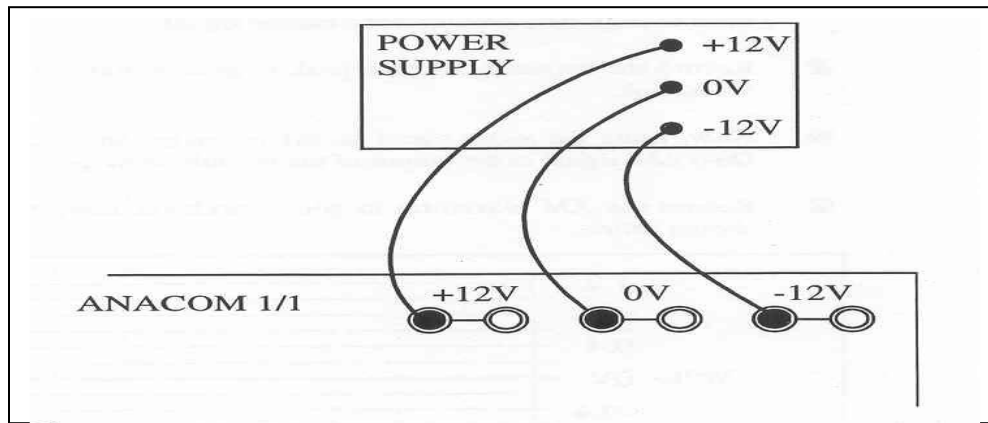

Fig. 10: Power Connection
- Connect the ANACOM 1/1 board to the power supply (see Figure 10).